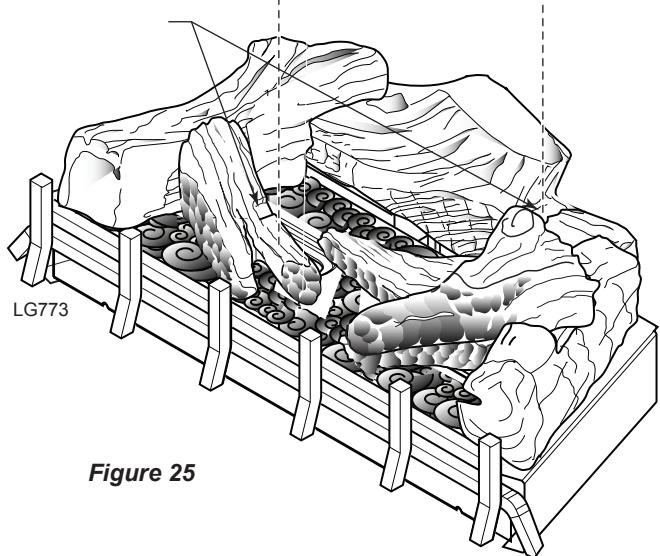

**Figure 23**
8. Set right center log #5 on center pin to the left of right base log. *Figure 23*